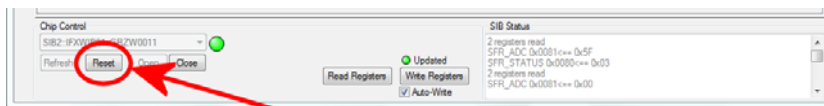

Figure 13 Reset button
- The **TDA7255V** can be reset by the “Reset”-button in the **Chip Control**-field at each tab of the **TDA7255V-Explorer** (see Figure 13) when closing jumper JP3 and opening jumper JP1 (see Figure 3).